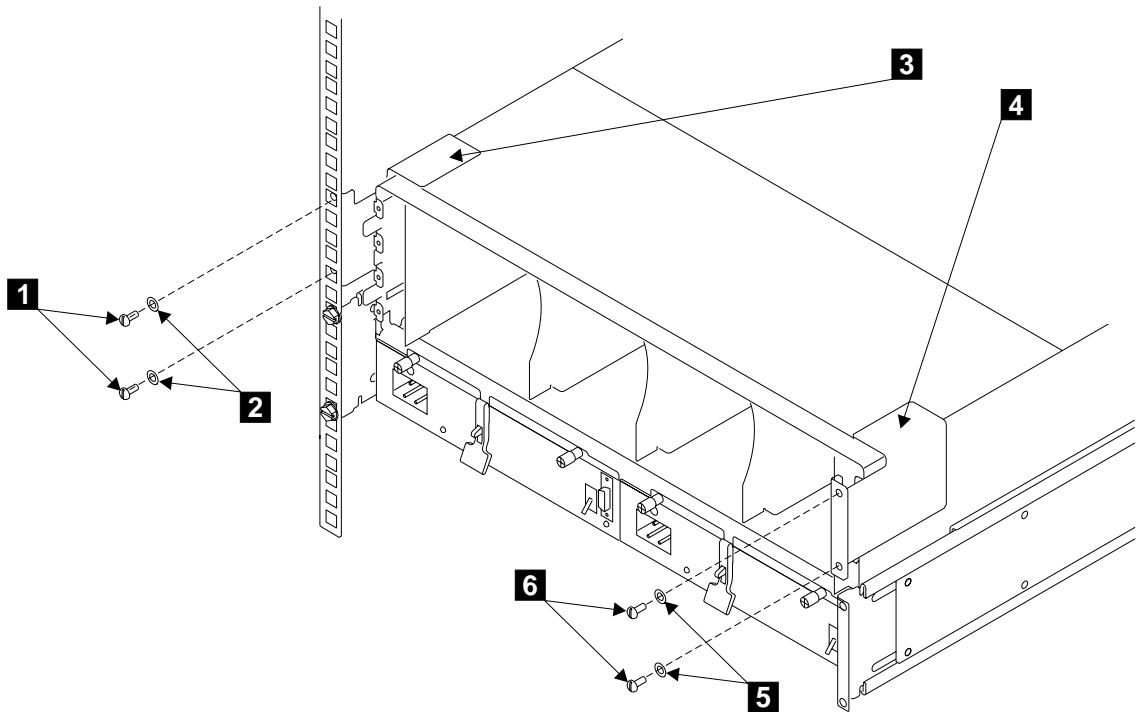

Figure 18. Installing the Back Brackets
9. Refer to Figure 18.
11. Place the right-hand back bracket **3** (now on your left) into position, as shown in Figure 18.
16. Place the other back bracket **4** into position, as shown in Figure 18.